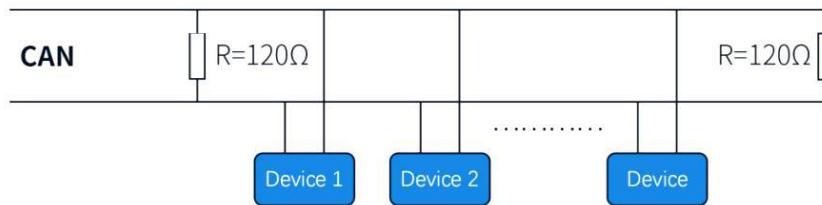

Figure 3-1
7. When using CAN protocol to connect multiple devices, please refer to the connection method shown in Figure 3-1 below.。